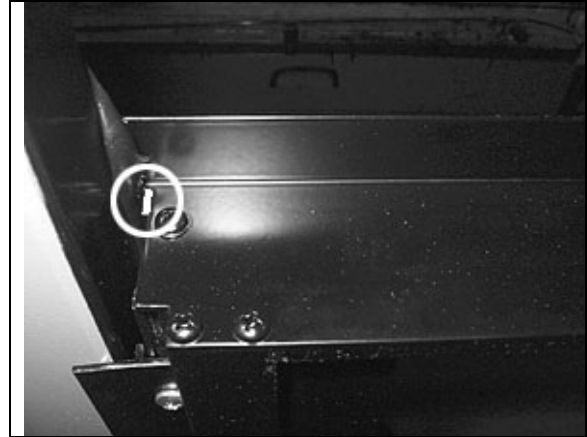

FIGURE 70 : AWNING WINDOW – SEAL THE CHINK
12. Using Sika 252 or 255, seal the chink between the structure vertical member and the awning window, both side (FIGURE 70).